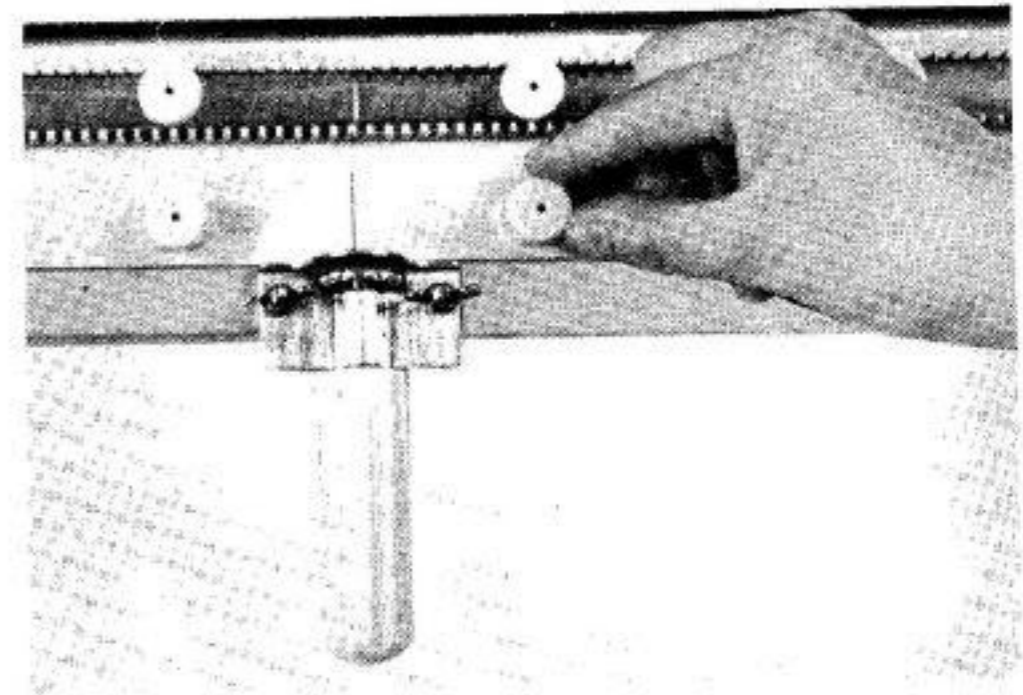

Fig. 28
- (3) Pinion Wheel Shaft (See Fig. 28.)